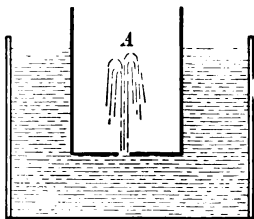

FIG. 15
**31. Pressure dependent on Depth.** — If we make a hole in the bottom of a can, *A* (Fig. 15), and then push the can down into a vessel of water, we shall observe these things: first, we have to exert force to push it down; second, the farther we push it the more force we must use; third, as the can goes down water rises through the hole; fourth, the farther down the can is, the higher the stream rises.